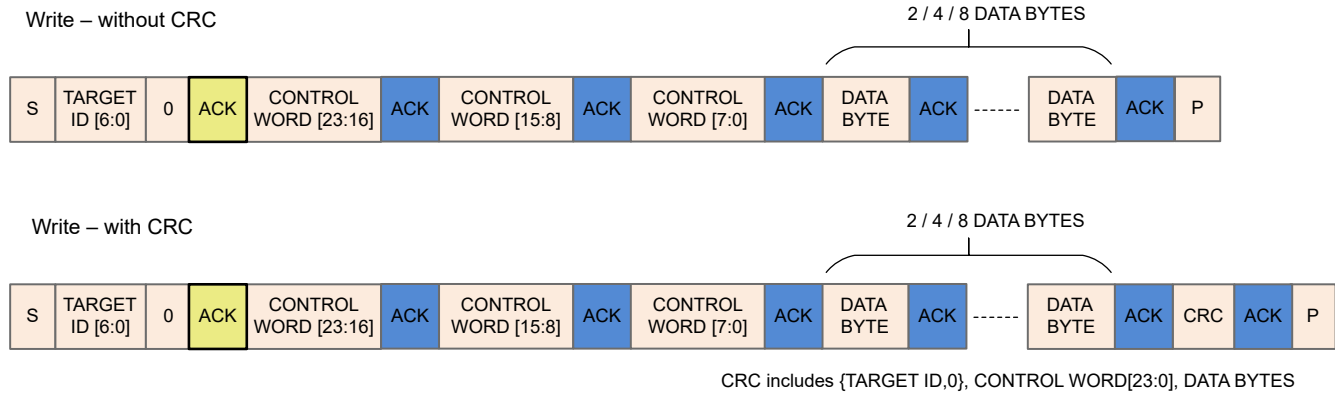
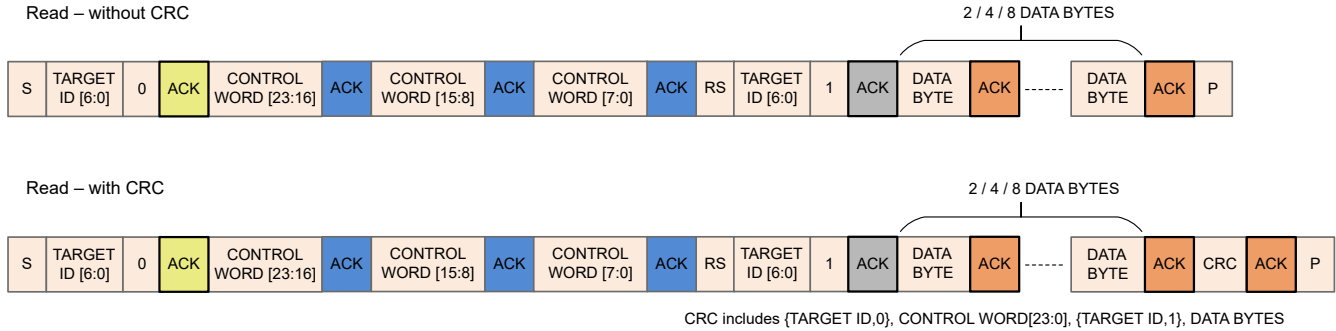

图 7-54. I²C Write Transaction Sequence
图 7-55. I²C Read Transaction Sequence
MCF8316C-Q1 write transaction over I²C involves the following sequence (see 图 7-54).
MCF8316C-Q1 read transaction over I²C involves the following sequence (see 图 7-55).
- When target ID is a match, I²C peripheral in MCF8316C-Q1 raises a start interrupt request. Until this start interrupt request is processed, clock is stretched. Upon processing this request, clock is released and an ACK (marked in yellow or grey in 图 7-54 and 图 7-55) is sent to the controller for continuing with the transaction.
- Receive interrupt pending:** When a receive interrupt is waiting to be processed and the receive register is full which occurs when two successive bytes (data or control) have been received by MCF8316C-Q1 (separated by one ACK shown as blue boxes in 图 7-54 and 图 7-55) without the receive interrupt generated by the first byte being processed. Upon receive of second byte, clock is stretched until receive interrupt generated by the first byte is processed.